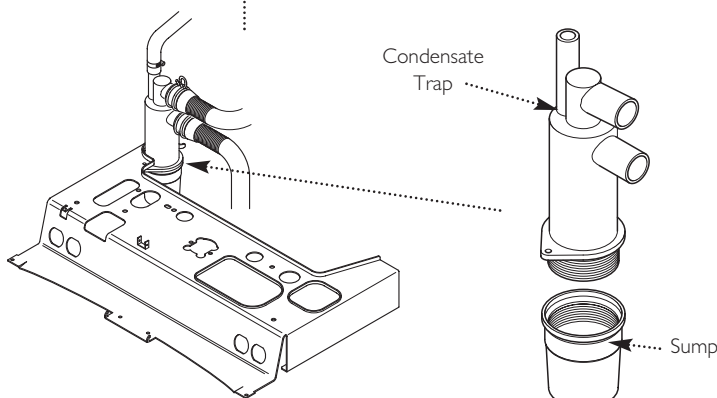

Fig. 61
7. Unscrew the sump from the bottom of the condensate trap assembly (Fig. 61).